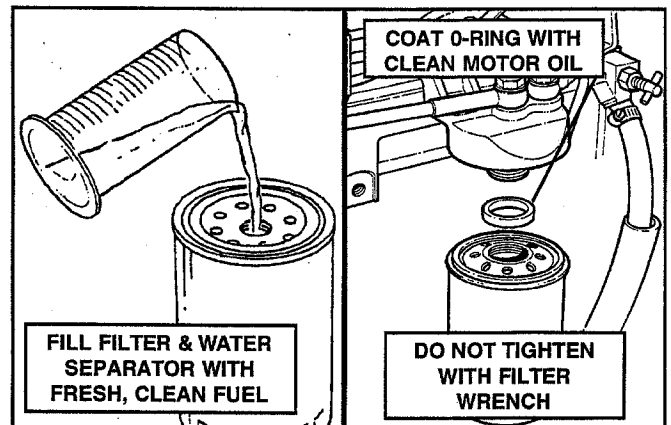

FIGURE 4.70
7. Fill Fuel Filter with fresh, clean fuel and install onto filter head. See Figure 4.70.